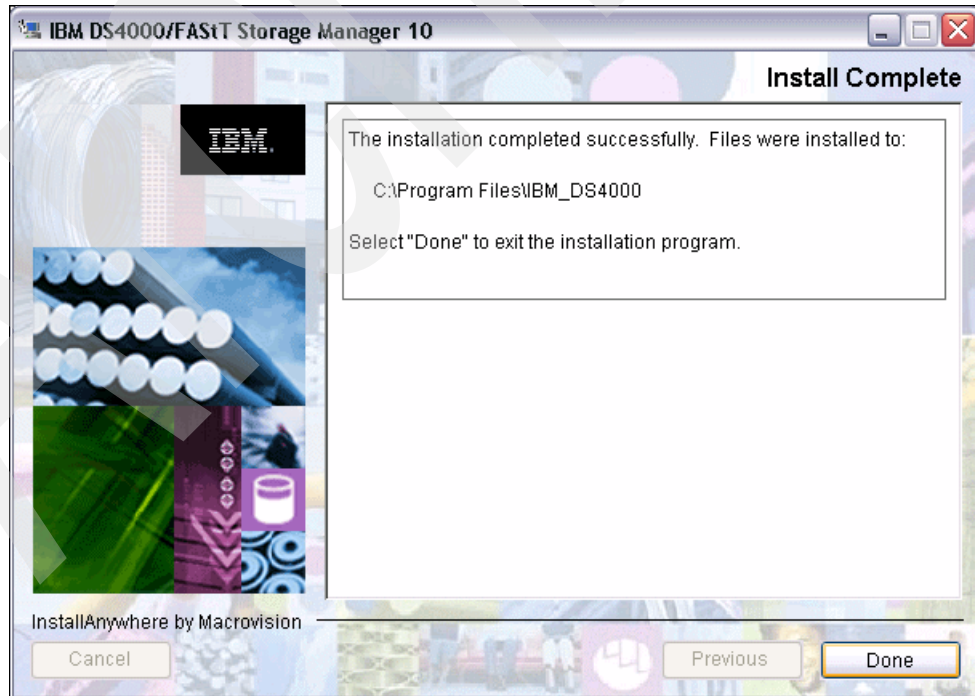

Figure 7-9 SM Install Complete dialog
10. The install wizard shows the installation progress. After successful completion of the installation click **Done**, as shown in the Install Complete dialog in Figure 7-9.